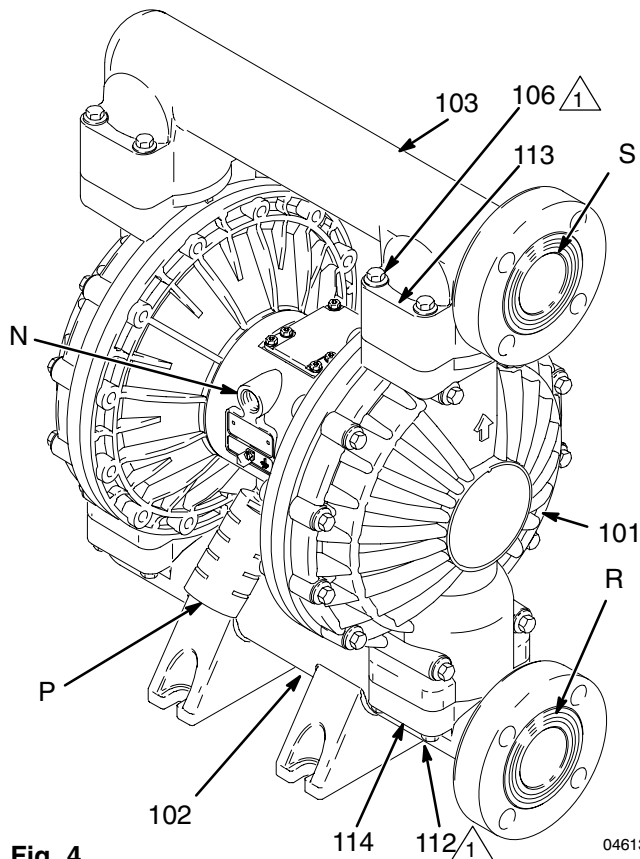

Fig. 4
The pump is shipped with the fluid inlet (R) and outlet (S) ports facing the same direction. See Fig. 4. To change the orientation of the inlet and/or outlet port:
1. Remove the screws and washers (106, 112, 113 and 114) holding the inlet (102) and/or outlet (103) manifold to the covers (101).